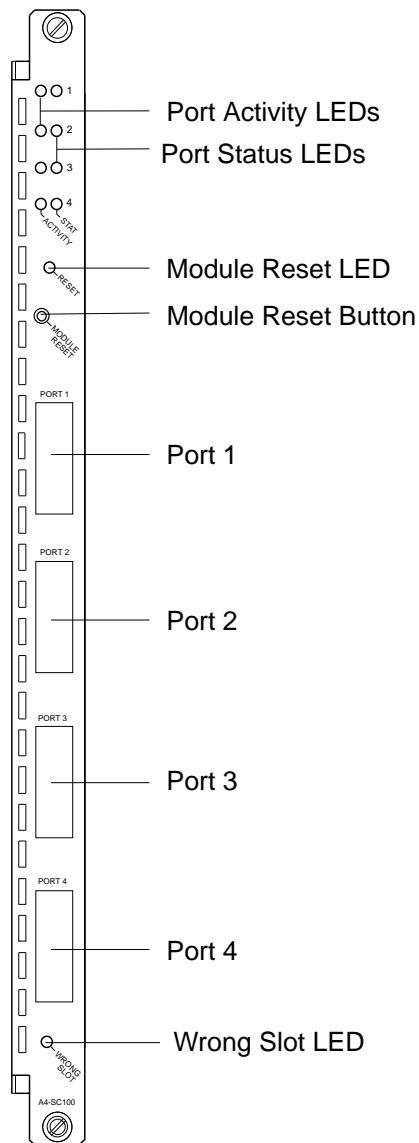

Figure 7. 100 Mbps Module Front Panel
Refer to Figure 7 when installing and configuring the 100 Mbps module.
- The port and module LEDs on the module faceplate (see Figure 7 on page 37)